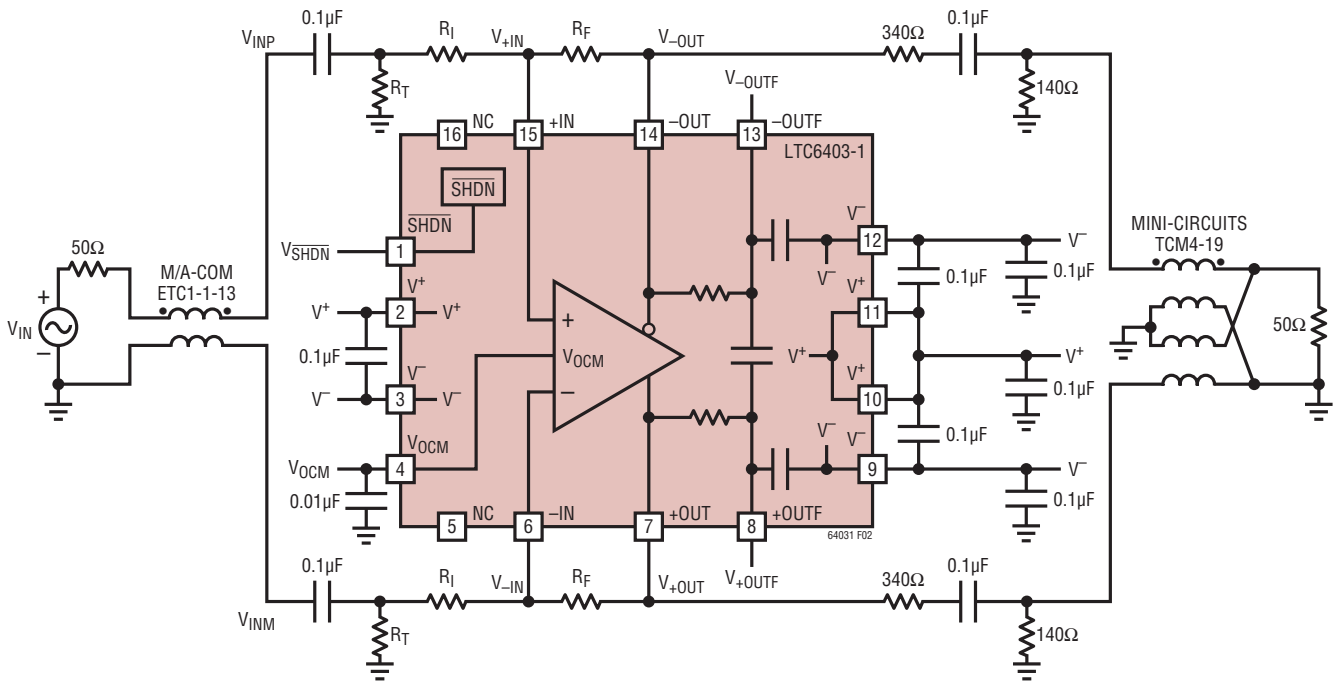

Figure 2. AC Test Circuit (-3dB BW Testing)
**LTC6403-1 AC ELECTRICAL CHARACTERISTICS** The ● denotes the specifications which apply over the full operating temperature range, otherwise specifications are at  $T_A = 25^\circ\text{C}$ ,  $V^+ = 3\text{V}$ ,  $V^- = 0\text{V}$ ,  $V_{\text{CM}} = V_{\text{OCM}} = V_{\text{ICM}} = \text{Mid-Supply}$ ,  $V_{\text{SHDN}} = \text{OPEN}$ ,  $R_I = 402\Omega$ ,  $R_F = 402\Omega$ ,  $R_T = 25.5\Omega$ , unless otherwise noted (See Figure 2).  $V_S$  is defined as  $(V^+ - V^-)$ .  $V_{\text{OUTCM}}$  is defined as  $(V_{+\text{OUT}} + V_{-\text{OUT}})/2$ .  $V_{\text{ICM}}$  is defined as  $(V_{+\text{IN}} + V_{-\text{IN}})/2$ .  $V_{\text{OUTDIFF}}$  is defined as  $(V_{+\text{OUT}} - V_{-\text{OUT}})$ .  $V_{\text{INDIFF}}$  is defined as  $(V_{\text{INP}} - V_{\text{INM}})$ .
**LTC6403-1 AC ELECTRICAL CHARACTERISTICS** The denotes the specifications which apply over the full operating temperature range, otherwise specifications are at  $T_A = 25^\circ\text{C}$ ,  $V^+ = 3\text{V}$ ,  $V^- = 0\text{V}$ ,  $V_{\text{CM}} = V_{\text{OCM}} = V_{\text{ICM}} = \text{Mid-Supply}$ ,  $V_{\text{SHDN}} = \text{OPEN}$ ,  $R_I = 402\Omega$ ,  $R_F = 402\Omega$ ,  $R_T = 25.5\Omega$ , unless otherwise noted (See Figure 2).  $V_S$  is defined ( $V^+ - V^-$ ).  $V_{\text{OUTCM}}$  is defined as  $(V_{+\text{OUT}} + V_{-\text{OUT}})/2$ .  $V_{\text{ICM}}$  is defined as  $(V_{+\text{IN}} + V_{-\text{IN}})/2$ .  $V_{\text{OUTDIFF}}$  is defined as  $(V_{+\text{OUT}} - V_{-\text{OUT}})$ .  $V_{\text{INDIFF}}$  is defined as  $(V_{\text{INP}} - V_{\text{INM}})$ .